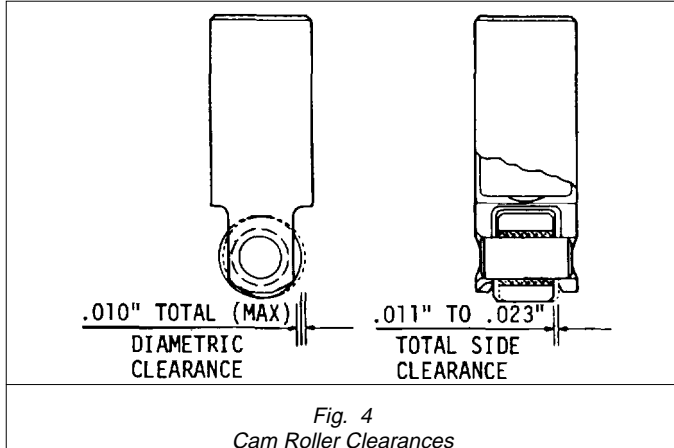
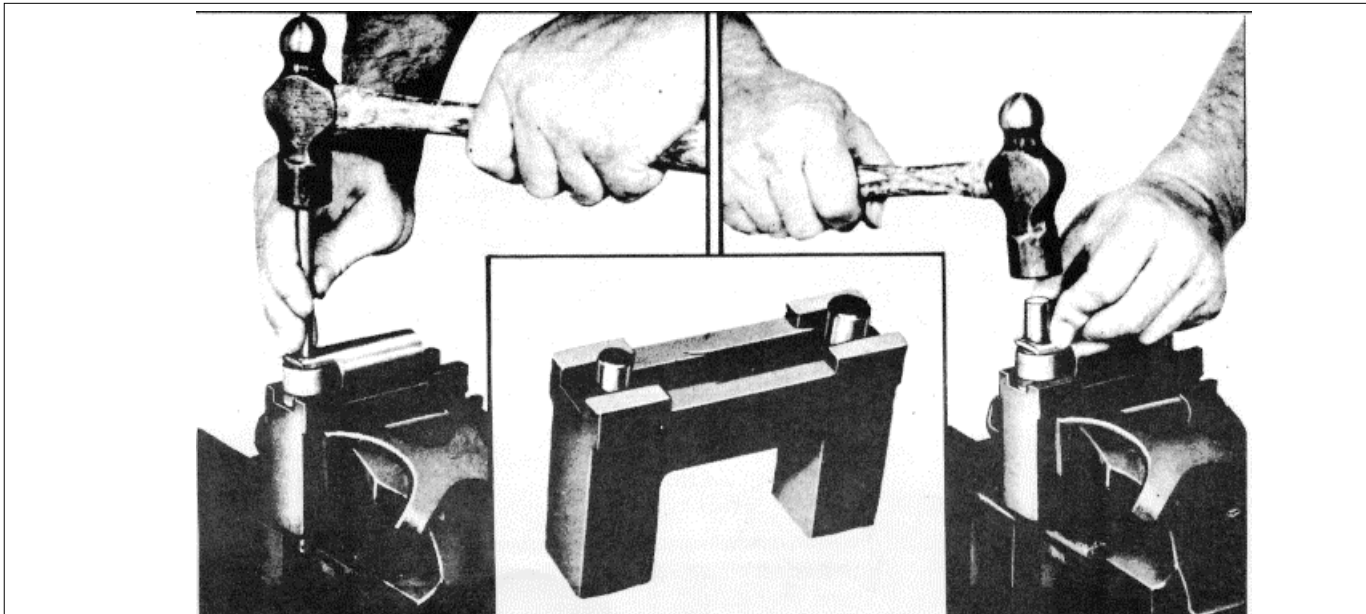

Fig. 4
Fig. 7
Examine the cam follower rollers for scoring, pitting or flat spots. The rollers must turn freely on their pins. Measure the total diametric clearance and side clearance. Install a new roller and pin if the clearances exceed those specified in Fig. 4. Cam followers stamped with the letter "S" on the pin, roller and follower body are equipped with an oversize pin and roller. The same clearances apply to either a standard or oversize cam follower assembly.
- (1) Clamp fixture J 5840-01 securely in a vise as shown in Fig. 7. Then place the cam follower in the groove in the top of the fixture, with the follower pin resting on top of the corresponding size plunger in the fixture.
- (2) Drive the pin from the roller with a suitable drift. Exercise caution in removing the cam follower body and roller from the fixture as the roller pin is seated on a spring-loaded plunger in the fixture.
- (3) Before installing the new roller and pin, remove the preservative by washing the parts with clean lubricating oil or Cindol 1705 and wipe dry. Do not use fuel oil. After washing the parts, lubricate the roller and pin with Cindol 1705.
- (4) Position the cam follower body in the groove of the fixture, with the small plunger extending through the roller pin hole in the lower leg of the follower body.
- (5) Position the new cam roller in the cam follower body. When released, the plunger will extend into the roller bushing and align the roller with the cam follower body.
- (6) Start the new pin in the cam follower body, then carefully tap it in until it is centered in the cam follower body.
- (7) Remove the cam follower from the fixture and check the side clearance (Fig. 4). The clearance must be .011" to .023".